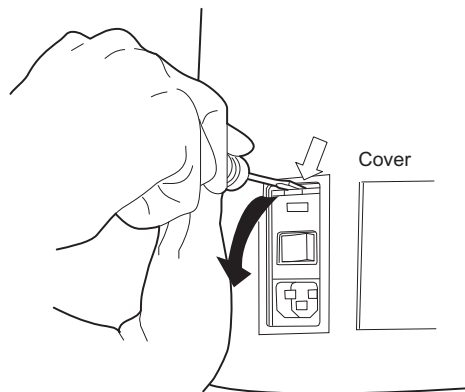

Figure 5-6 Open the Fuse Cover
4. Using the small (#1) slotted screwdriver provided with the Review Scope, carefully pry open the cover of the power entry module as shown. (Refer to Figure 5-6.)